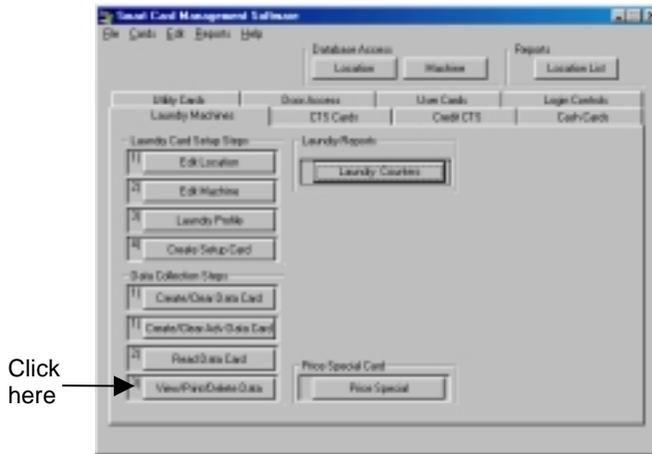

Figure 8.40 Opening the Data Collected Window
1. Click the View/Print/Delete button (Figure 8.40).